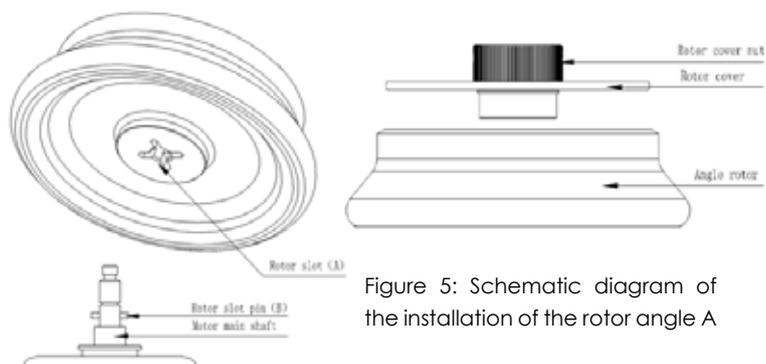
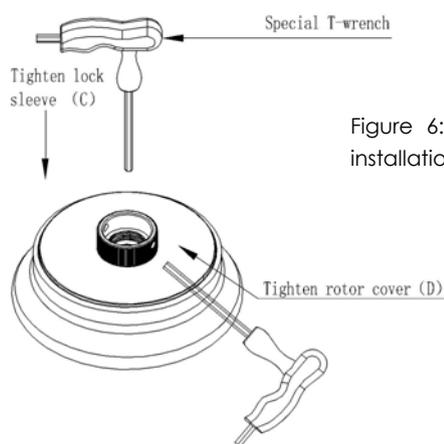

Figure 5: Schematic diagram of the installation of the rotor angle A
Figure 6: Schematic diagram of the installation of the rotor angle B
Steps to install the rotor is as follows (indicated in Figure 5, Figure 6)
- As shown in Figure 5, Figure 6, target the rotor slot in the bottom of the angle rotor with the rotor slot pin on the motor main shaft, then put the angle rotor on the shaft through the hole, then fix the angle rotor and motor main shaft with the rotor cover nut with the attached hexagon wrench (Figure 5, Figure 6).